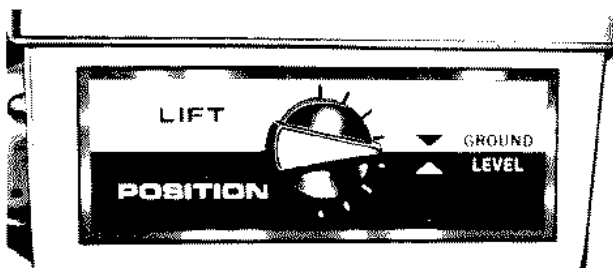

Figure 9
9. Depth Indicator Gauge. Allows operator to locate original height or depth of attached implement. (See Figure 9.)
Located on the instrument panel is a depth indicator gauge which is used in conjunction with the lift lever. Lower the attached implement to its desired height or depth, and manually turn the indicator gauge to the ground level position indicated in Figure 9. Thus this gauge allows the operator to raise the attachment for maneuvering and assure him of returning attachment to the same height or level he was operating it at. By visually observing the depth indicator when lowering an attachment, the lift lever can be released when indicator reaches the original desired or ground level setting. **NOTE:** Study each attachment owner manual for additional information on **DEPTH GAUGE INDICATOR**.